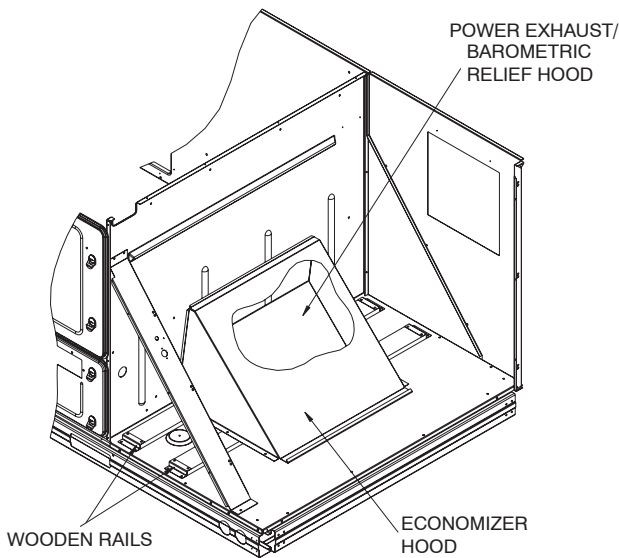

Fig. 18 - Economizer and Barometric Relief/Power Exhaust Hoods Shipping Positions
1. Economizer and barometric relief hoods are located in the condenser section under the slanted coil for shipping. (See Fig. 18.) Barometric relief/power exhaust hood is shipped inside of economizer hood. Remove screws that secure the wooden rails of the hood assemblies to the unit. Save screws. Slide complete assembly from condenser section.